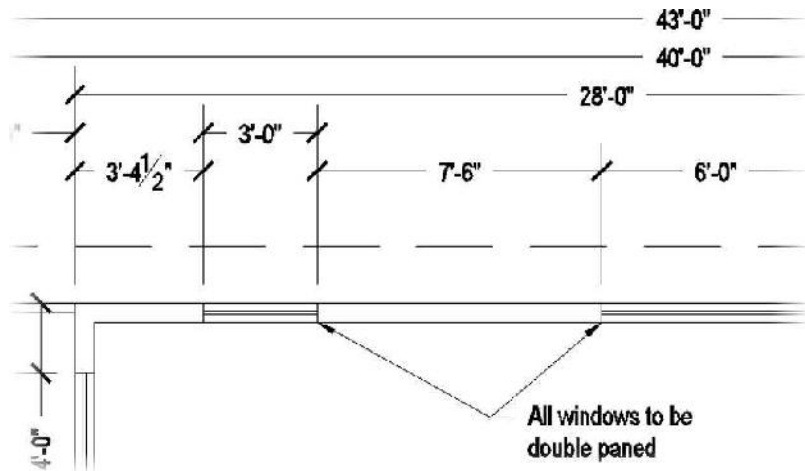

FIGURE 12.47: The result of zooming in to the upper-left side of the floor plan
2. Zoom in to a view of the upper-left side of the floor plan until you have a view similar to Figure 12.47, which includes the left window and the top of the rear deck and their dimensions.